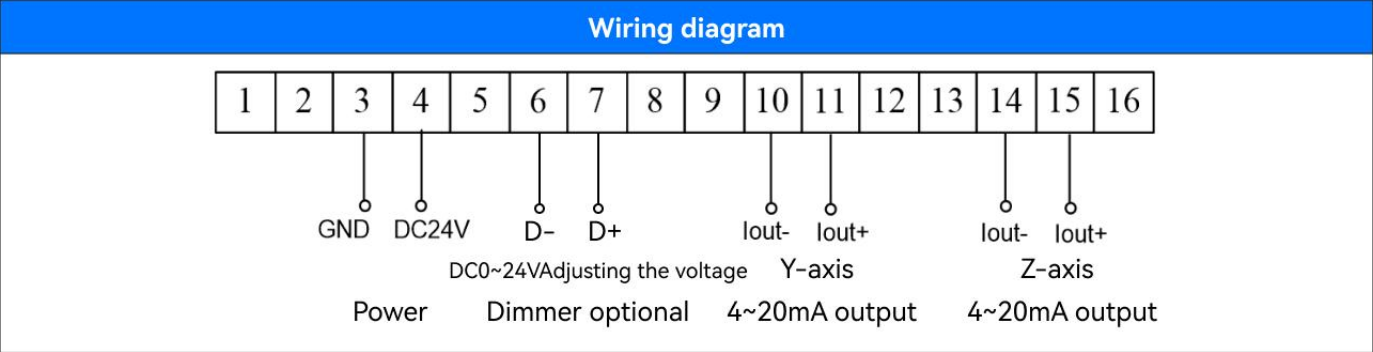

Figure 1.5
The product provides 16 terminals, using DC24V power supply separately, Y axis and Z axis each output 1 4~20mA current signal, with 1 potentiometer dimming interface (if not dimming, can not be connected). The wiring diagram is shown in Figure 1.5.
2. Switch on the power supply, connect the cable as shown in Figure 1.5, push the handle lever, and the resistance reading between the identification number 10 and 11 is the output value of continuous linear change from 4 to 20mA. The red 100% scale corresponds to 4mA, and the green 100% scale corresponds to 20mA. Rotate the handle rod, the resistance reading between the identification number 14 and 15 is the output value of 4 ~ 20mA continuous linear change, the counterclockwise rotation current decreases, the output is 4mA when it is rotated to 180°, the clockwise rotation current increases, the output is 20mA when it is rotated to 180°; The backlight emits normally. After the inspection is complete, place the handle lever at 0 scale.
4. According to the characteristics of the accessories used in this product, the instantaneous input voltage shall not exceed 20% of the range specified in Figure 1.5 at any time. Avoid excessive instantaneous current and burning accessories.